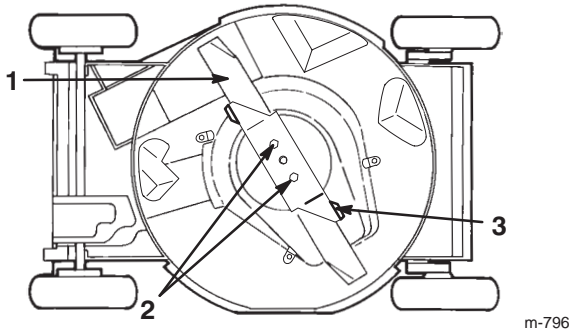

Figure 24
4. Tip the lawn mower onto its **left** side (Fig. 24).
Grasp the end of the blade using a rag or a thickly padded glove. Remove the blade nuts, the accelerator, and the blade (Fig. 24).
5. Remove 2 blade nuts, the accelerator, and the blade (Fig. 24).